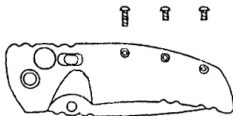

FIGURE 3
- 5) Turn knife over as shown in Figure 3.